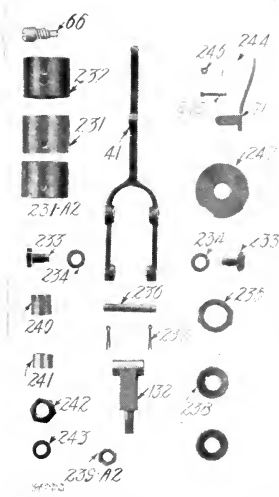

Fig. 60.
53. Intake and exhaust cam shafts, shifting lever, magneto and pump gears, etc. (*See Figs. 60 and 61.*)